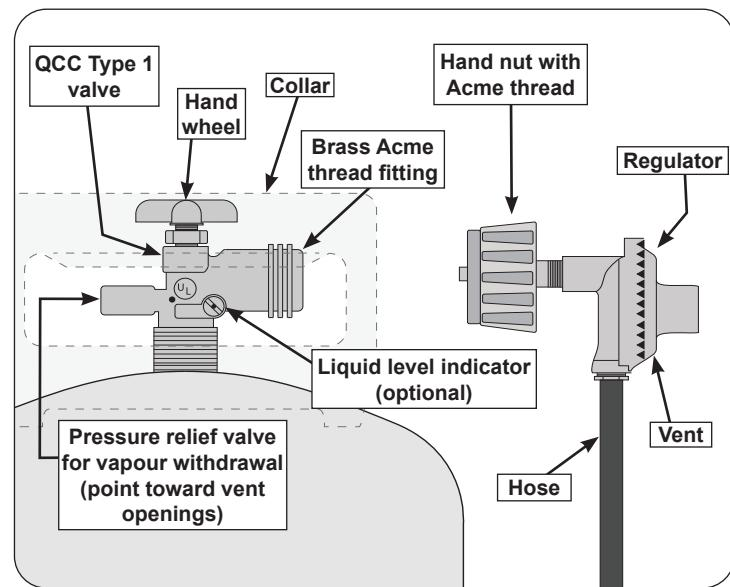

Fig. 5-1 Type I Acme thread coupler
- d. The cylinder used must include a collar to protect the cylinder valve. The cylinder supply system must be arranged for vapour withdrawal. See Fig. 5-1.
- e. When used with a cylinder, the gas supply system must be used with a pressure regulator. The pressure regulator and hose assembly (**not supplied**) used must match the specification for Type I by ANSI Z 21.58/CGA 1.6 and must comply with UL 144 as a part of the self-contained LP gas supply system (see Fig. 5-1).
To disconnect: Turn the hand nut counterclockwise until detached (Fig. 5-1).